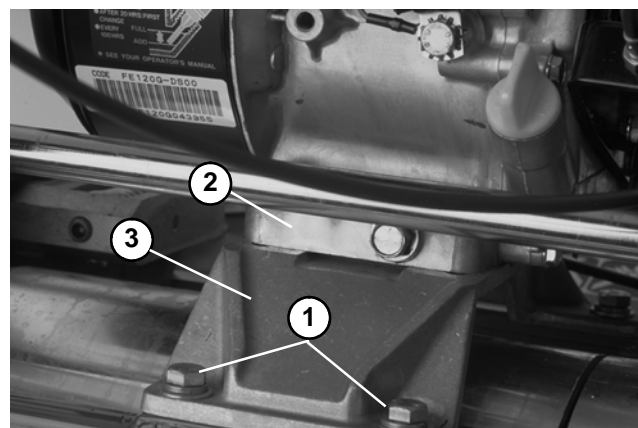

Figure 7
B. If pulleys are misaligned, loosen cap screws securing the engine mounting base to the mower frame. Slide engine from side to side until the pulleys are aligned (Fig. 7).